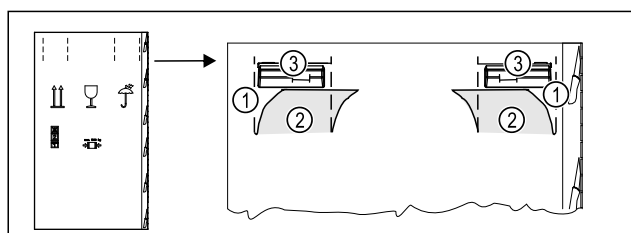

Fig. 5
- Press the packaging cardboard into the perforation Fig. 5 (1) at the top.
- Pull out any tabs Fig. 5 (2) that have been pushed in.
- Carrying handle Fig. 5 (3) visible on the right and left.
- Hold the appliance by the carrying handles Fig. 5 (3).